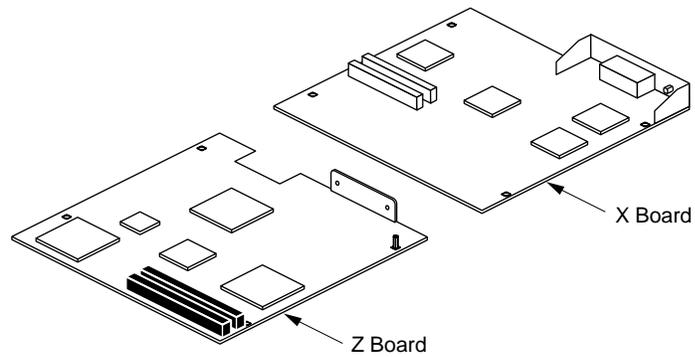

Figure 1-30 The Z Board and the X Board
1. Identify the Z board, as shown in Figure 1-30. It is the one with a small, round I/O connector on the back panel, and a rectangular cutout at the rear of the board.